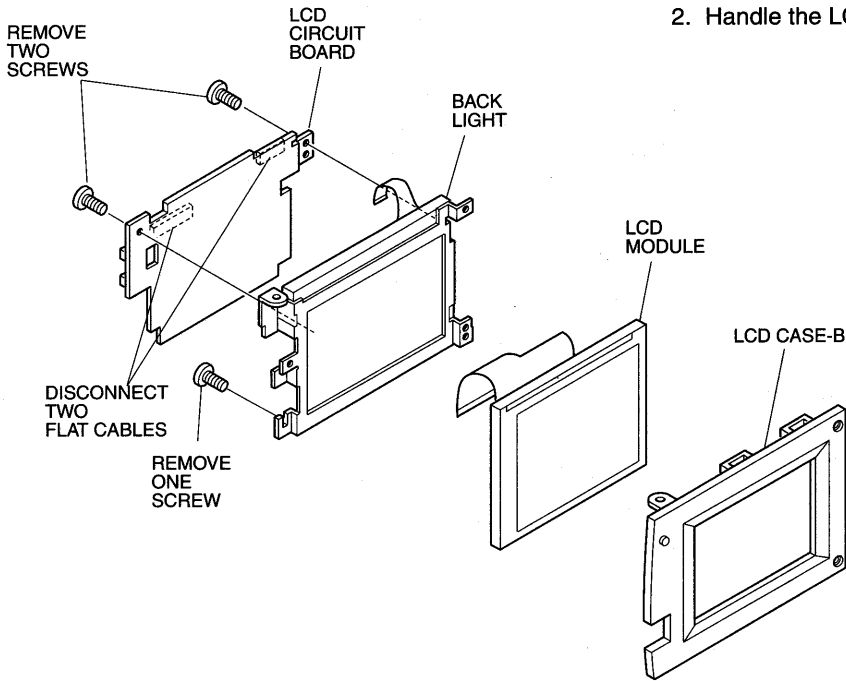

Fig. 2-9 [Except for TYPE 660, 368, 360]
2.9 LCD Circuit Board, Back Light, LCD Module, LCD Case-B (Fig. 2-9) [Except for TYPE 660, 368, 360]